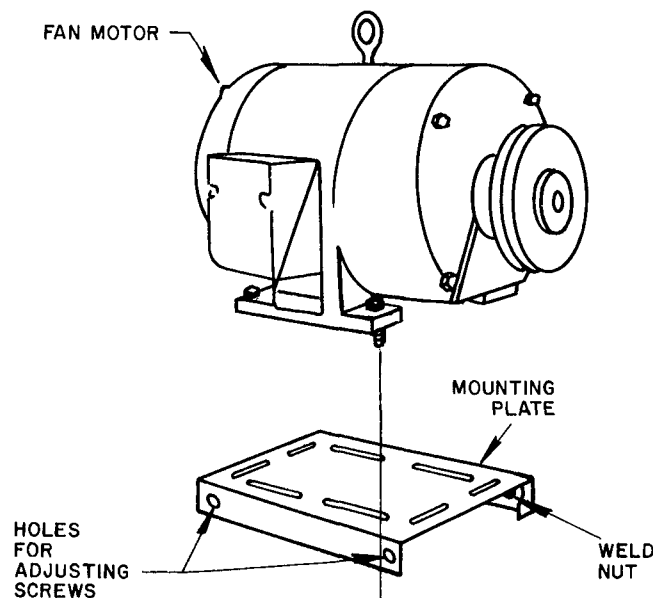

Fig. 5 – 028 and 034 Motor Mounting
2. Position motor on motor plate (Fig. 5) and fasten with fasteners provided.